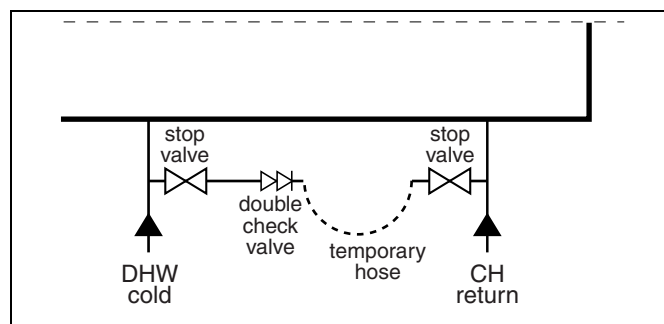

fig. 33 Connecting temporary hose
- Connect temporary hose (→ fig. 33).